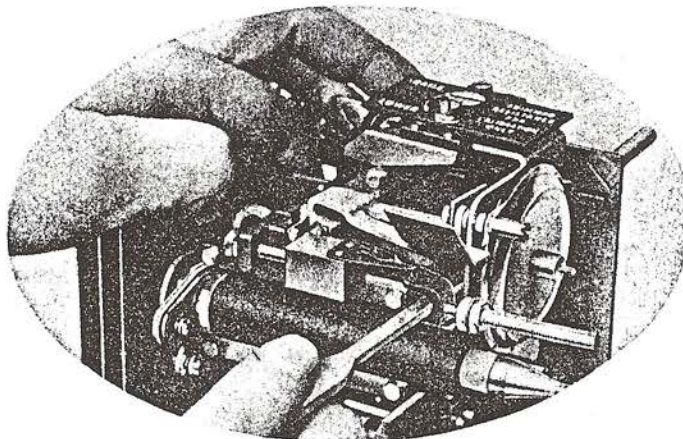

FIG. 6
- (1) Take a new dashpot from container and place dashpot on fixing studs so that captive screw lines up with the hole in operating rod. Move clapper by hand to line up dashpot operating rod with hole in bush on dashpot compression plate, then push dashpot home (see Fig.6).
- (2) Replace the three 6BA hexagonal pillar nuts and Thackeray washers and tighten (see Fig.6).
- (3) Move the clapper by hand all the way in, then tighten the captive screw (see Fig.6).